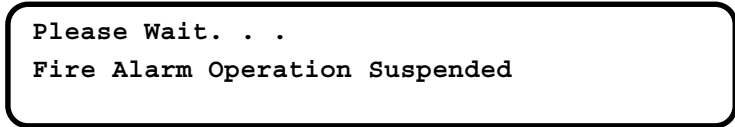

Figure 8-1. Fire Alarm Operation Suspended Screen
2. Press <NEXT> or <PREVIOUS> until [Programming] is displayed and then press <ENTER>. Figure 8-1 appears briefly to warn you that the 4010 is no longer in the Fire Alarm Operation mode.